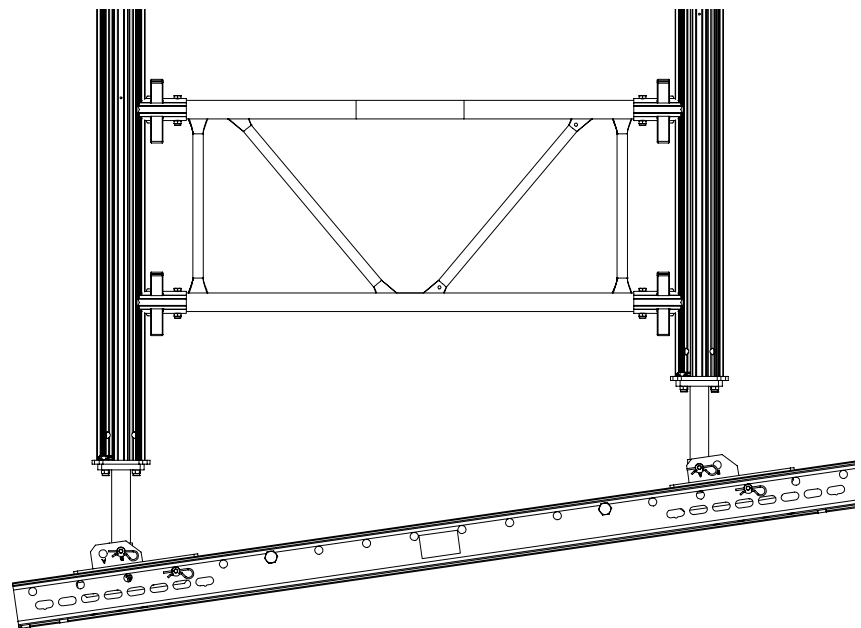

Fig. A2.11
- The Push Prop Head can also be used for erecting towers on inclined surfaces. (Fig. A2.11)